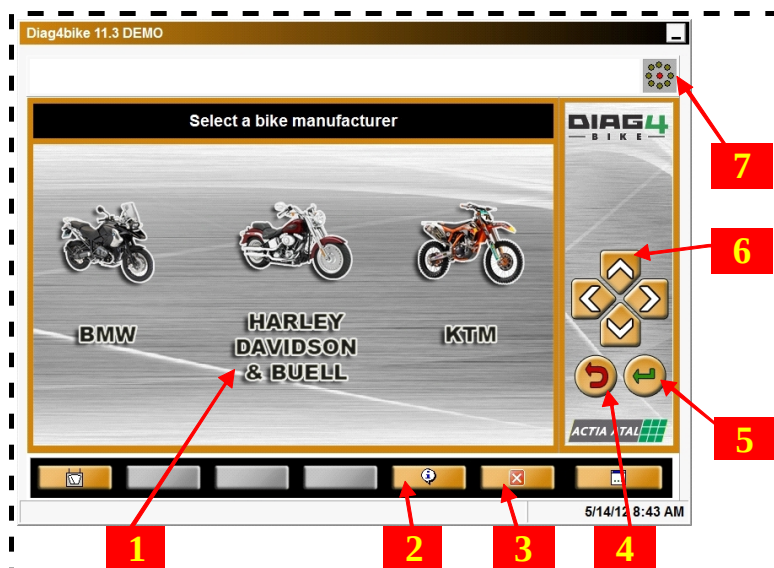

Fig. 38 – Demonstration of the initial screen after program start-up (description of control elements on the screen and explanation of symbols)
Button descriptions (Fig. 38):
The program can be terminated by clicking the icon  (see Fig. 38, pos 4) until the confirming dialogue box informing about the application termination comes up. This button can be replaced by clicking the **ESC** key (on the right-hand side of your keyboard).